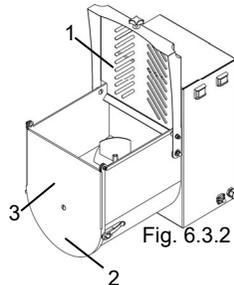

Fig. 6.3.2
- Open the closure buckle clips "2" Fig. 6.3.2 to release the front cover "3" Fig. 6.3.2